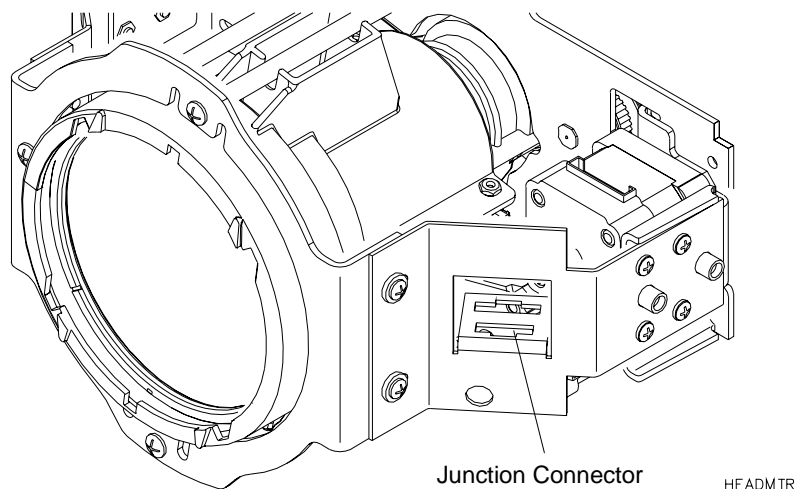

Figure 2-15: Disconnecting Zoom Optics Motor Wiring
- Step 6. Disconnect zoom optics motor wire connector from junction connector. **Figure 2-15.**